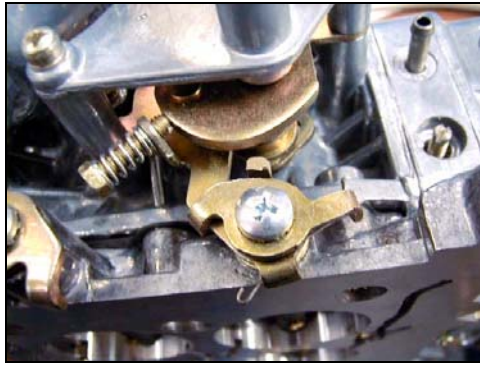

Figure 6
- Using the three (3) equal-length short screws from the kit, fasten the retaining ring and choke cap to the choke housing just enough to hold the cap in place, but will allow the choke cap to be rotated (see Figure 6 on the next page).